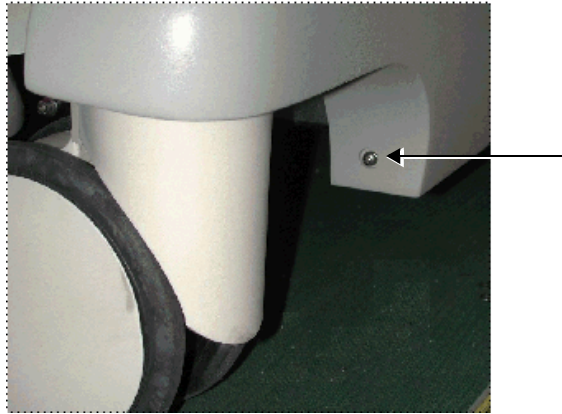

Figure 8-2 Wheel Arch Screw
- 3) Fasten the screw in each of the wheel arches of the two side covers (four in total), an example of which is shown in Figure 8-2, above. To easily access the screws, turn the wheels inwards by 90 degrees.